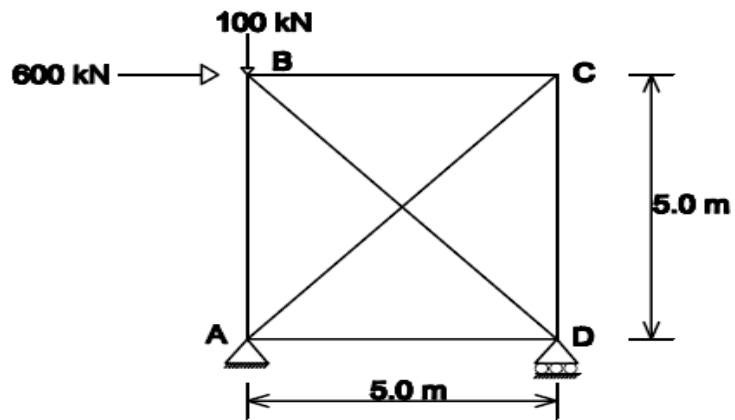

Figure 6
- 6 Find the forces in the members of the truss using Displacement method [Figure.6]